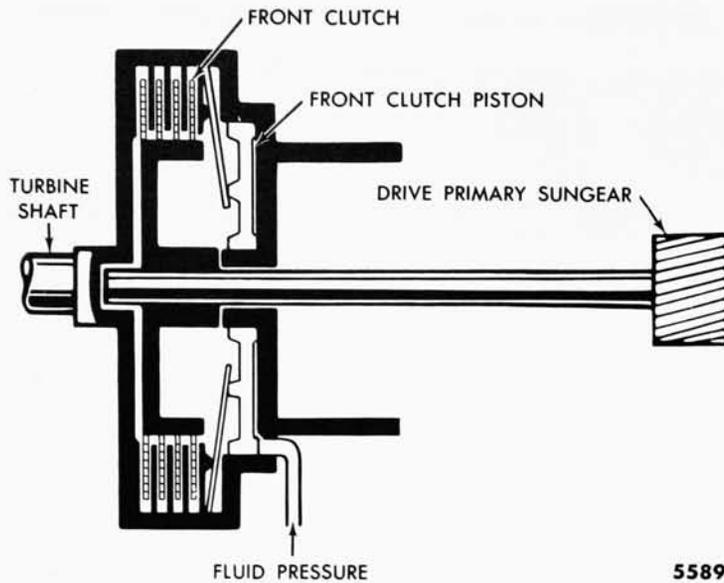

Fig. 14—Front Clutch
(1) **FRONT CLUTCH.** The front clutch assembly consists of the front clutch cylinder, front clutch piston, release spring, three steel drive plates and four clutch driven plates with composition facings (fig. 14). Three drive and four driven clutch plates are used in all models. The drive plates are connected to the turbine shaft. The driven plates are connected to the primary sun gear shaft.
(1) **FRONT CLUTCH.** The front clutch is operated by fluid pressure against the front clutch piston. The piston is moved against a spring washer which increases the "apply" force through lever action to lock the multiple disc clutch. When the clutch is applied the primary sun gear is locked to the turbine shaft to drive the primary sun gear. The primary sun gear is driven in all forward speeds. The piston is returned to the released position by the spring washer when the fluid pressure is removed (fig. 14).